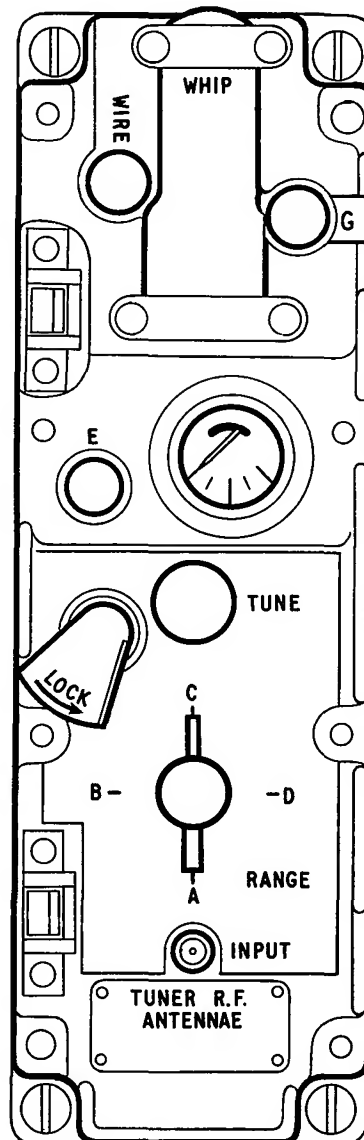

FIG. 17 TUNER RF CONTROLS
- (2) Turn the RANGE switch on the tuner RF to the appropriate position. See fig. 17.
- (3) Move the LOCK control to the free position.
- (4) Press the pressel switch or the key.